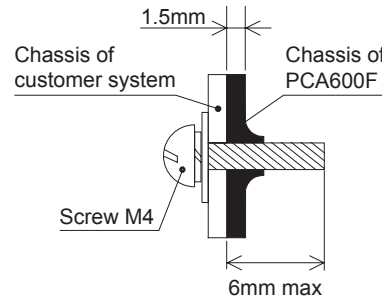

Fig.5.1 Mounting screw
■ To keep enough isolation between screws and internal components, the length of mounting screws should not exceed Fig. 5.1.